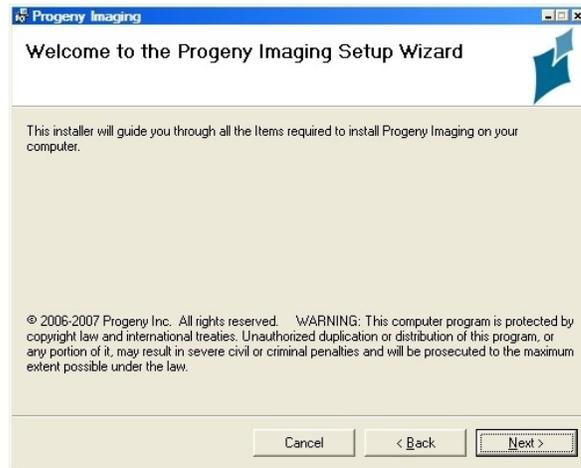

Figure 67
7. In the Welcome screen, click "Next" (see Figure 67 on page 42).